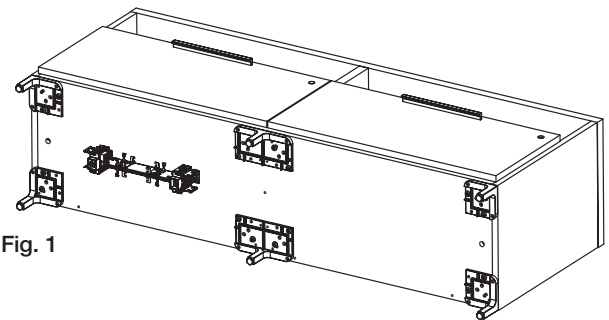

Fig. 1
1. Lay Anchor unit on its back on a clean, nonabrasive surface (recommend a clean sheet of cardboard or a blanket wrap). (Fig. 1)